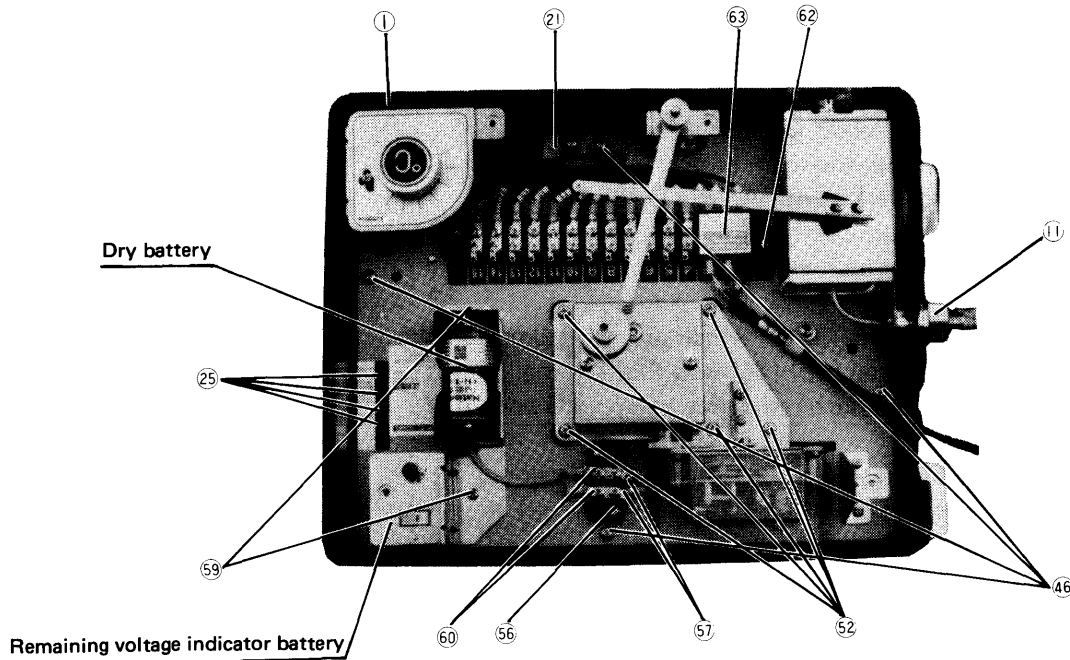
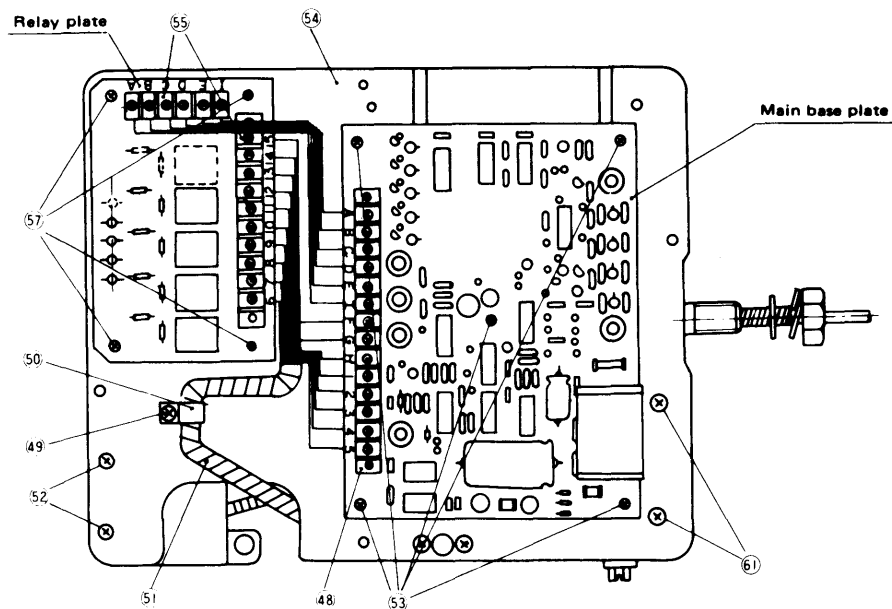

Fig. 3 Internal structure
Fig. 4 Internal device assembly
- (1) Remove the recording plate from the body (1) (See Article b. (2)●) When it is remove, it looks as shown in Fig. 3. In this state, sensor, timer, remaining voltage indicator and batter and dry battery are replaced.
- (2) Remove the internal device assembly. Loosen four hexagonal nuts (11) and screws (46) and remove the internal device assembly from the main body (1) and turn it back. Then it looks as shown in Fig. 4.
(2) Measuring resistance of the volume setter
- Adjust the volume setter as shown in Fig. 4 in accordance with Article D,(2).
- Remove the lead wires (3 pcs, F. G. H.) which are laid from the volume setter from the terminal (48) (14P) on the terminal strip of the main base plate and measure resistance between G and H of the lead wires.
(3) Replacing points
- From the state of the volume setter as shown in Fig. 4, loosen screw (49), remove power source plug (50), remove the spiral tube (51) from the wires. Then remove two screw bolts (52) and the volume setter can be removed from the base (54).
- After replacing the volume setter with a new one, inspect and adjust it in accordance with Articles c. (1).① and c. (1).②
② Main base plate
(1) Replacing standards
(2) Replacing points
- Adjust the volume setter as shown in Fig. 4 in accordance with Article D,(1).
- Remove the wires (14 pcs Nos A ~ H, 1 ~ 5) from the terminal strip (48) on the main base plate.
- Remove 5 screws (53) to remove the base (54) from the main base plate, so replace it with new one.
③ Relay base
- Adjust it as shown in Fig. 4 in accordance with Article D,(1).
- Remove the wires (14 pcs No. A ~ E, F ~ H, I, 1 ~ 5) from the terminal strip (55) on the relay base plate.
- Loosen four screws (57), and the relay base plate can be removed from the base (54). So replace the relay base plate with a new one.
④ Sensor
- In case the pilot lamps for functioning temperature (25) remain unlit although the power source is turned on.
- Remove the recording board, (state shown in Fig. 3). Loosen the screws (62) to remove protection board for impressed voltage (63) loosen terminal screws (Nos. 1 to 3) on the terminal strip (21) and remove the wiring. Then, measure temperature of the feeler part and resistance of the sensor and compare them with the characteristics of temperature resistance shown in Fig. 10, and if they do not accord with them, replace the sensor. If they accord, the main base plate or the volume setter is out of order. So replace it in accordance with Articles D,(2).① and D,(2).②
(2) Replacing method
- Since numbers (1, 2, 3. . .) are described on the sensor lead wires, so connect them to the terminals having the same number on the terminal strip (21).
- After replacement, inspect and adjust the sensor in accordance with Articles C,(1).① and C,(1).②
- Replace the recording board, and insert a battery so as not make a mistake in polarity as in the state of Fig. 3 (Fig. 3 shows polarity of a battery). It is advisable to use a battery similar to SUM-2 of JIS C8501 and R14 of IEC. (Dry battery DC1.5V)
② Remaining voltage indicator battery
- Remove the recording board (state shown in Fig. 3). Loosen two screw bolts (59) and two screw bolts (60), and the remaining voltage indicator battery can be removed from the indicator body. So replace it with a new battery.
- When replacing, connect the wires to the terminal strip (56) in a way red wire to red and black wire to black.
③ Timer (Quartz motor reducing gears)
- Although remaining voltage of dry battery is correct (confirmed in accordance with Article b. (2). ③) the quartz motor does not start.